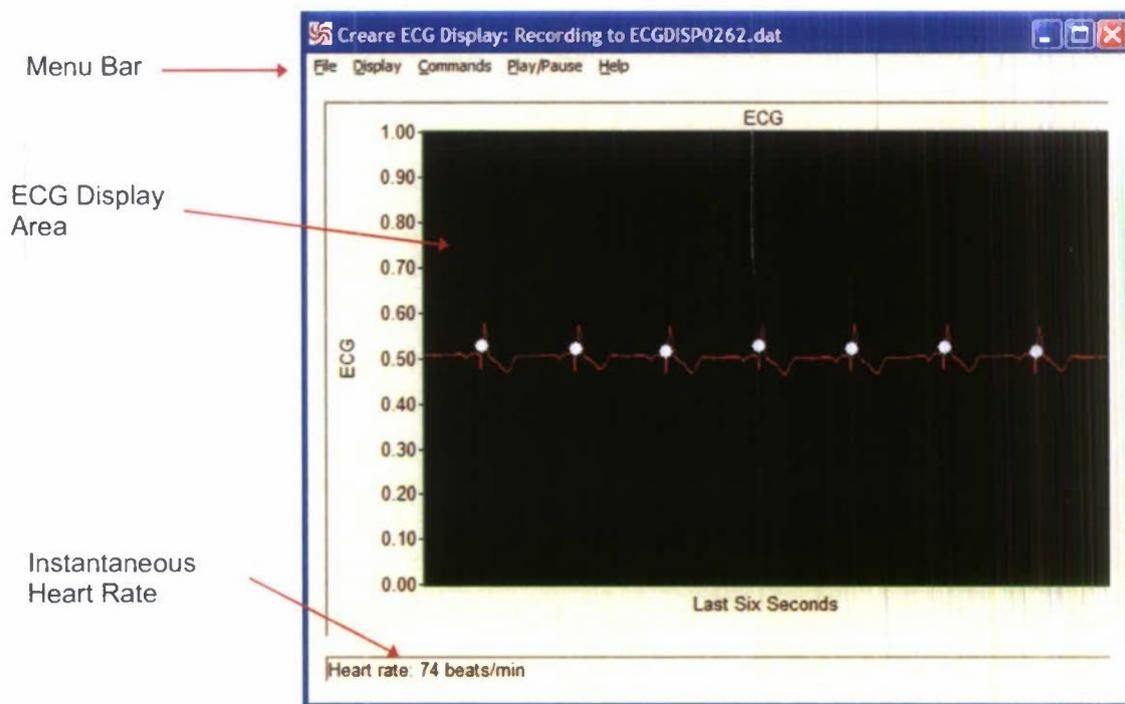

Figure 5. Graphical User Interface for the Creare DHMS PC Software
The graphical user interface of the Creare DHMS software is shown in Figure 5. As can be seen, there is a menu bar at the top, a large area for displaying the ECG data streamed wirelessly from the sensor, and a text display at the bottom for showing the current heart rate transmitted by the sensor.
5. Confirm Scrolling Data on Screen. When the PC wirelessly receives data from the DHMS sensor, it will display the data within the large ECG display area in the application's window (as shown earlier in Figure 5). At the bottom of the window, the heart rate will be printed.